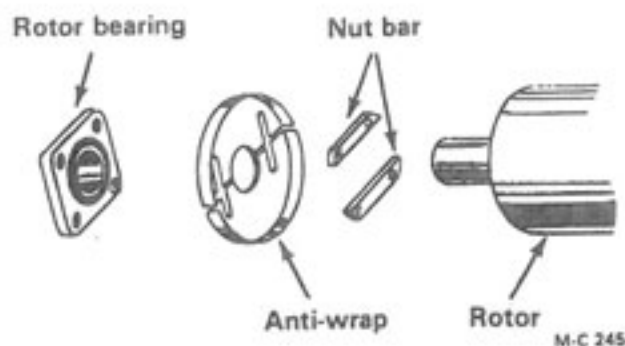

Figure 40
4. Place the four mounting capscrews through the bearing and Shredder body. Refer to Figure 40. Partially thread the capscrews into the nut bars. Slide the two anti-wrap halves over the capscrews. Tighten the capscrews evenly to align the bearing on the shaft. Tighten the two set screws in the bearing lock collar.
6. Place the four mounting capscrews through the bearing and Shredder body. Refer to Figure 40. Partially thread the capscrews into the nut bars. Slide the two anti-wrap